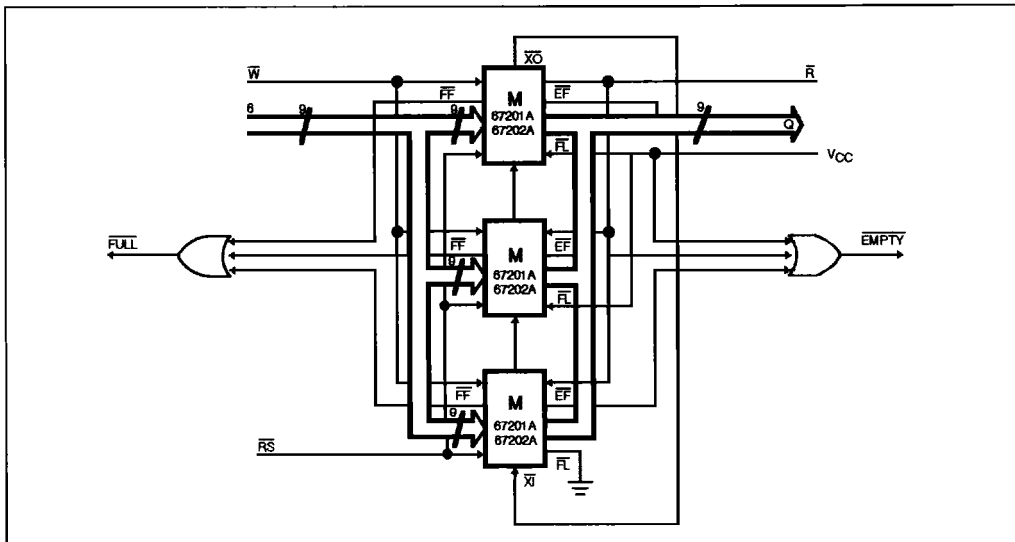

Figure 4 : Block Diagram of 1536 x 9 / 3072 x 9 FIFO Memory (Depth expansion).
The M 67201A/202A can be easily adapted for applications which require more than 512/1024 words. Figure 4 demonstrates Depth Expansion using three M 67201A/202A. Any depth can be achieved by adding additional 67201A/202A.
3. The Expansion Out (\overline{XO}) pin of each device must be connected to the Expansion In (\overline{XI}) pin of the next device. See figure 4.
4. External logic is needed to generate a composite Full Flag (\overline{FF}) and Empty Flag (\overline{EF}). This requires that all \overline{EF} 's and all \overline{FF} 's be \emptyset Red (i.e. all must be set to generate the correct composite \overline{FF} or \overline{EF}). See figure 4.
- 6. For depth expansion block see section on Depth Expansion and Figure 4.